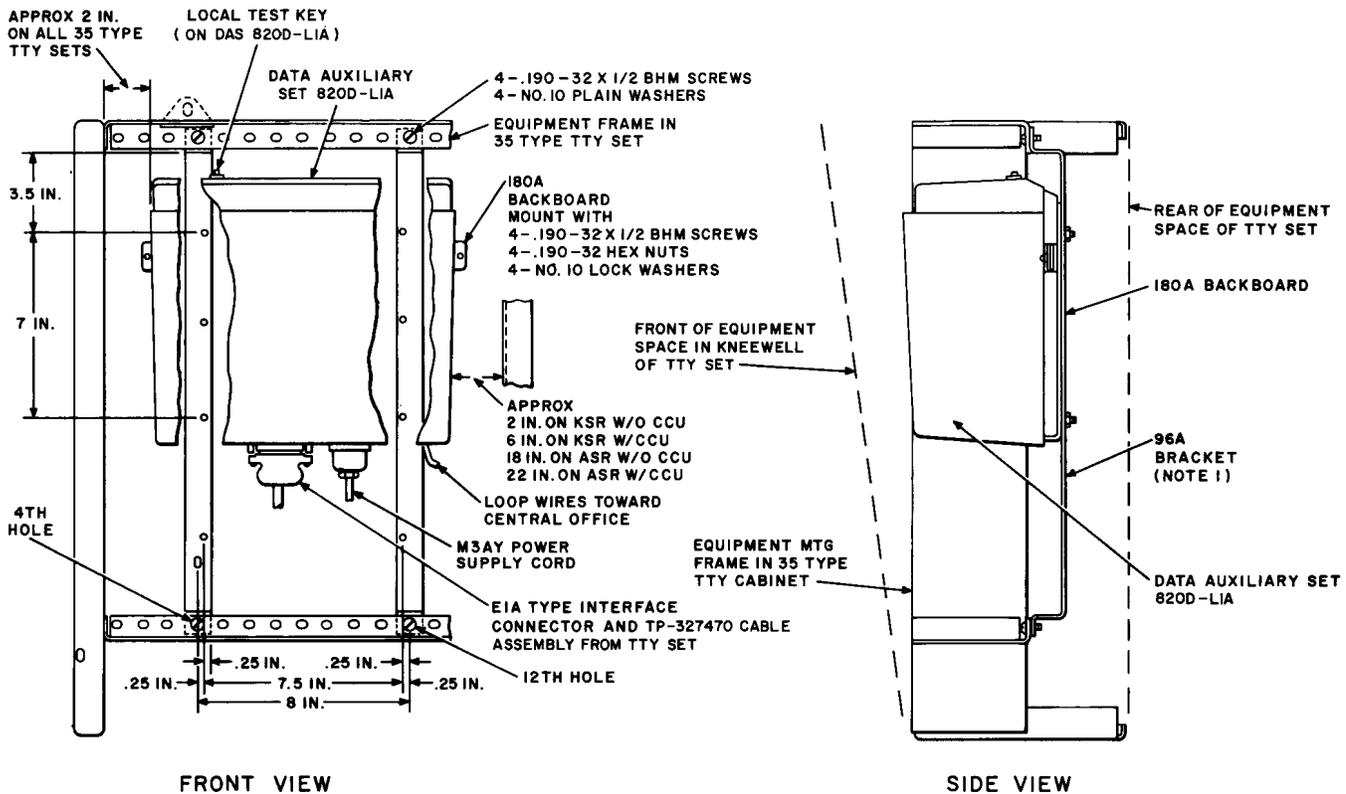

Fig. 4—Layout of Model 35 TTY with Data Auxiliary Set 820D-L1A
4.09 Install the 96A bracket, 180A backboard, and DAS 820D-L1A equipped with the data set and AR17 circuit pack inside the TTY pedestal as follows (Fig. 4).